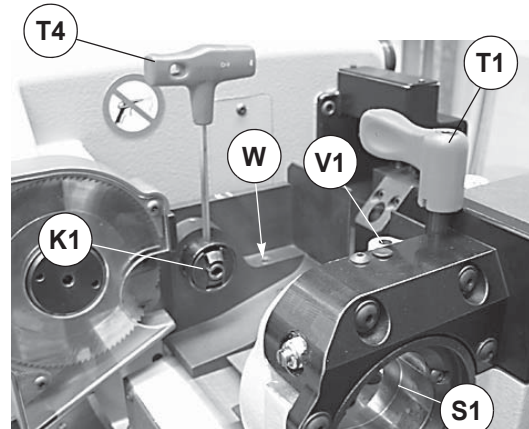

Fig. 59
**Note:** before starting any operation for keys with rear stops the K1 tailstock must be removed. Simply loosen the screw (W) with the wrench (T4) (fig. 59) and push the K1 tailstock to the left in order to remove it from its seat. If this is not done, an alarm will appear, even in the case of a simple reading operation: **ALARM 17**